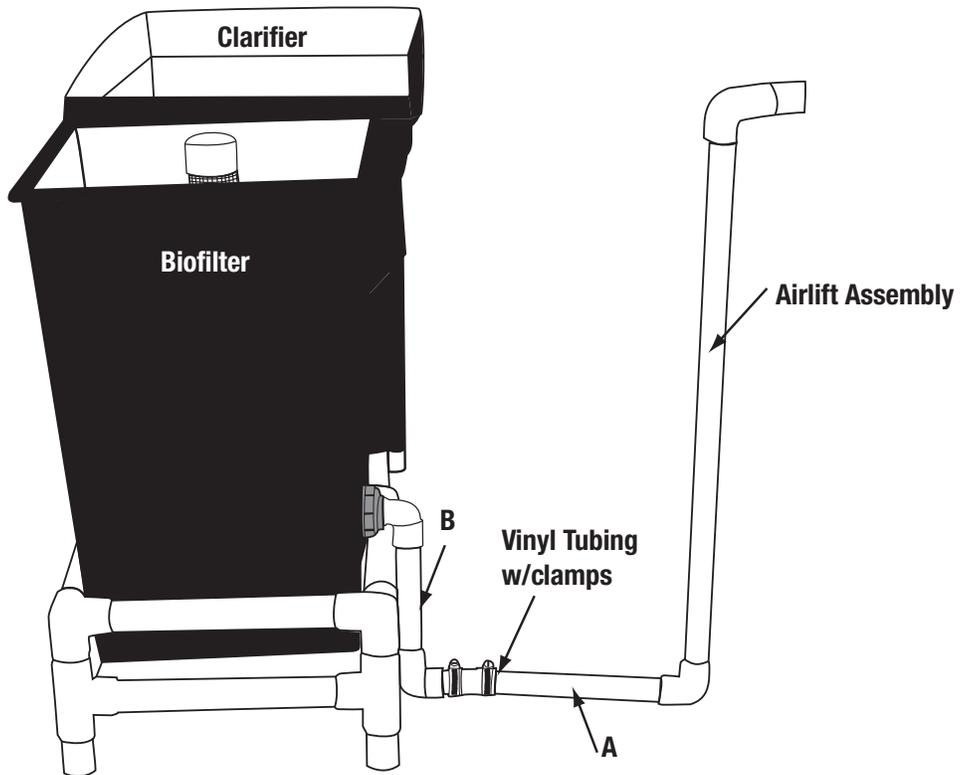

Fig. 4
- E. **Airlift:** Attach airlift pipe [A of Fig. 4] to the outflow of biofilter [B] using vinyl tubing and clamps provided. Be sure tubing covers both pipes evenly and clamps are tight. Use only water as lubrication—any other substance could foul water.